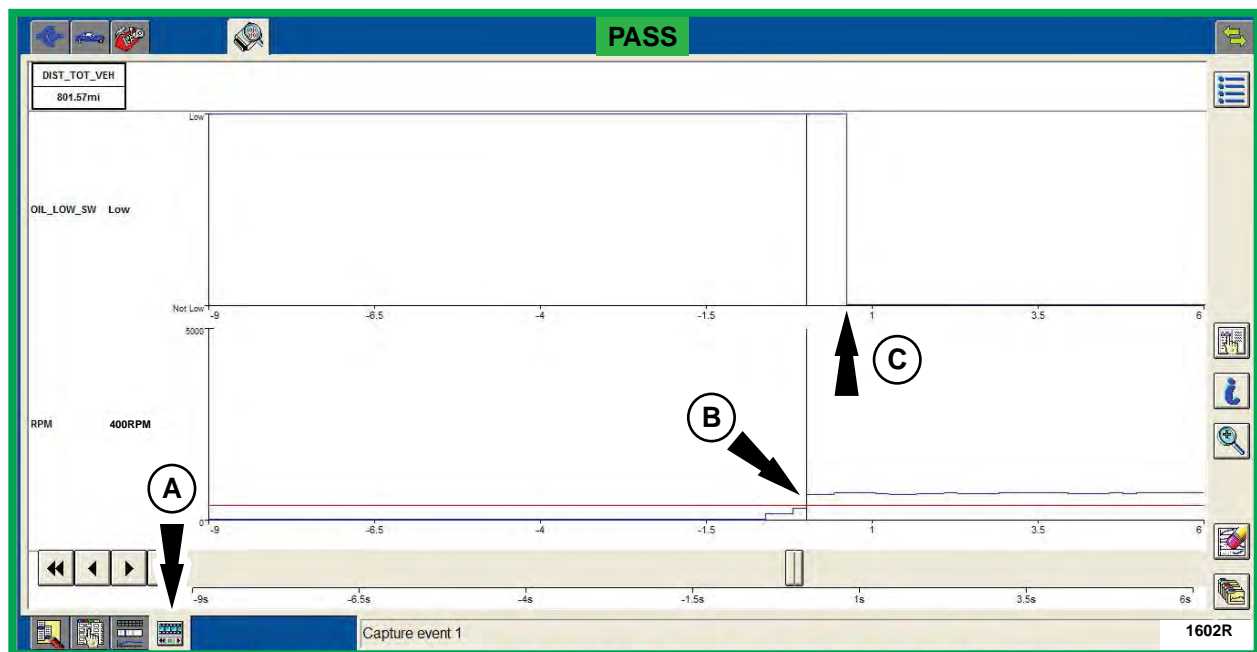

FIGURE 11
10. Evaluate the recording data. See Figures 11 and 12.